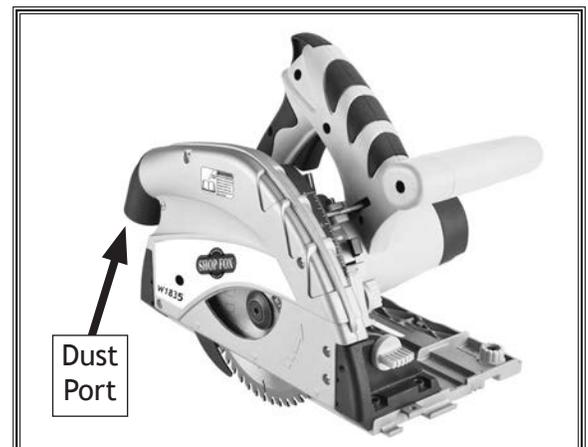

Figure 8. Dust port location.
1. Fit the 1½" dust hose over the dust port (see Figure 8), and secure in place with a hose clamp.